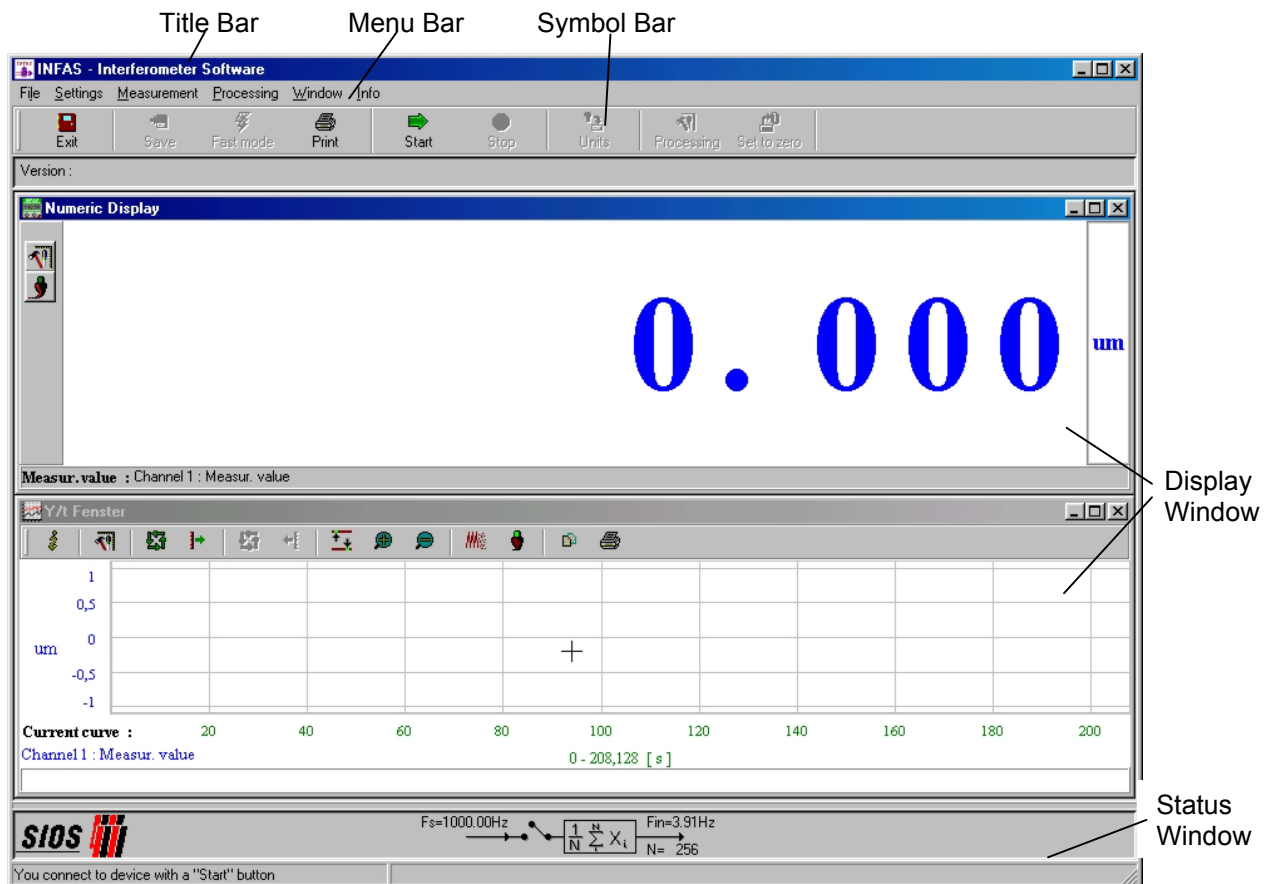

Fig. 2: The opening onscreen display page.
- Display Window: Numeric Display windows, “Y/t”-windows (cf. Fig. 2, above), and windows for displaying the numerical contents of data sets, plots of sequences of measurement data and data sets that have previously been saved.